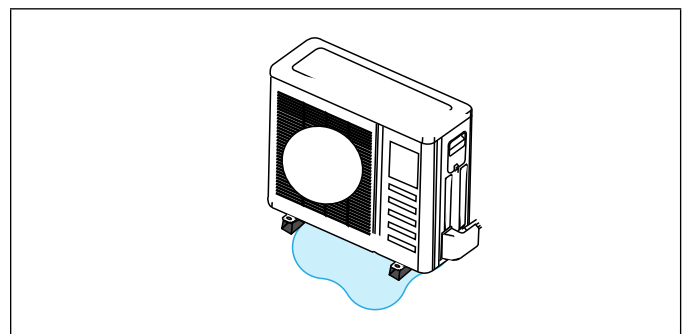

Figure 24. Avoid Defrost Water Ice Hazard
- Carefully consider how to manage defrost water disposal to prevent ice from blocking walkways or creating a safety hazard near the outdoor unit as illustrated in “Figure 24. Avoid Defrost Water Ice Hazard”.